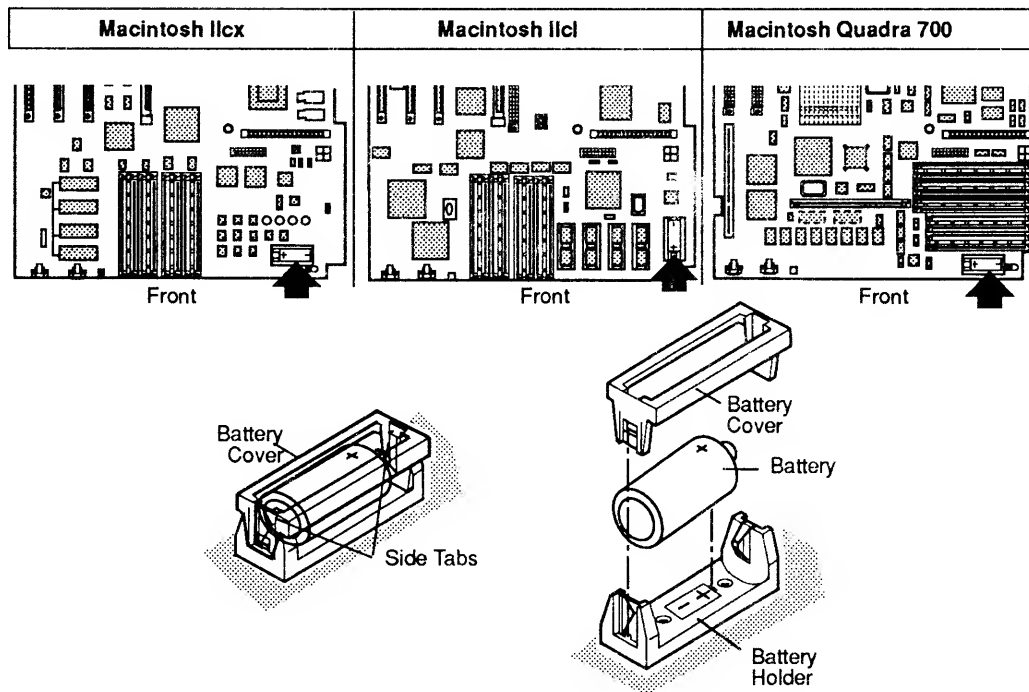

Figure 5-1 Battery Holder and Battery
2. Locate the battery holder and battery on the front of the logic board (**Figure 5-1**).
1. Insert the new battery with the positive side of the battery in the side of the holder marked positive (refer to **Figure 5-1**).
CAUTION: *Be sure the positive side of the battery is in the correct location (**Figure 5-1**). An incorrectly placed battery can damage the logic board.*